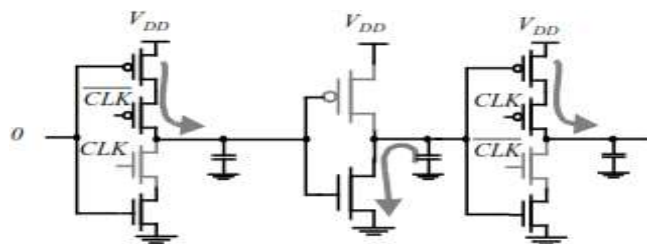

Figure 3.25 Potential race condition during (0-0) overlap in C2MOS-based design.
- The only way, a signal can race from stage to stage under this condition is, when the logic function *F* is inverting, as in Figure 3.25.